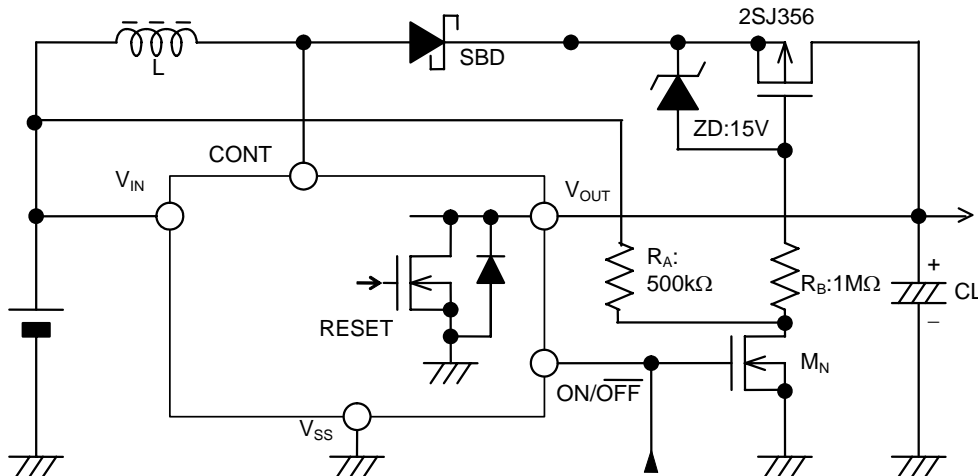

Figure 7 Circuit Example Using 2SJ356
Figure 7 shows a circuit example using the NEC 2SJ356 (Pch MOS FET) as a current cutting switch. This circuit example turns ON and OFF the 2SJ356 in connection with the reset signal to the power off pin using a small signal transistor M_{N} (Nch MOS FET). A Zener diode (ZD) is used for the purpose of clamping voltage so as not to apply high voltage (20V or more) of the rated voltage between the gate and the source of the 2SJ356. However, when the circuit is used at 20 V or below, a Zener diode is not needed. Invalid current flowing into resistors R_{A} , R_{B} during step-up operation may affect the efficiency. Set R_{A} , R_{B} to the maximum level. If you set the resistance of R_{A} to the high value, a drop in the voltage occurs in resistor R_{A} due to off current of M_{N} and the current cutting switch 2SJ356 does not normally function. Be careful (Note that the efficiency characteristics shown in the reference data were measured without attaching a current cutting switch and is different from that shown in this example).